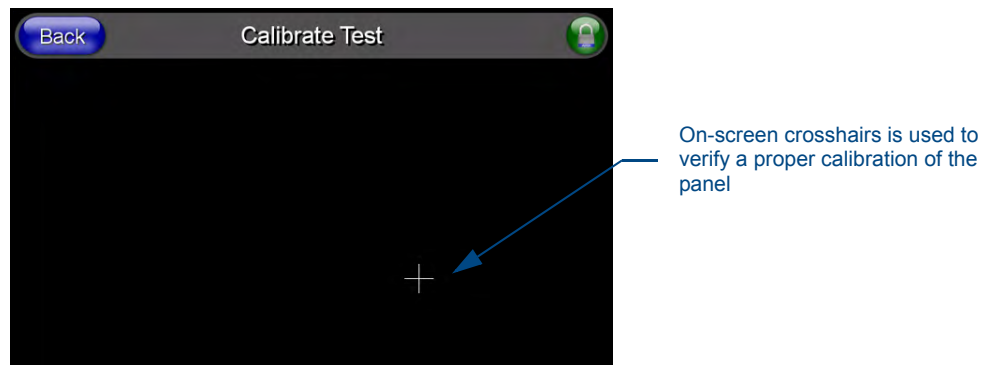

FIG. 90 Calibration Test page
1. Press and hold down the on-screen **Calibration** button for 6 seconds to enter the Calibration Test page (FIG. 90).